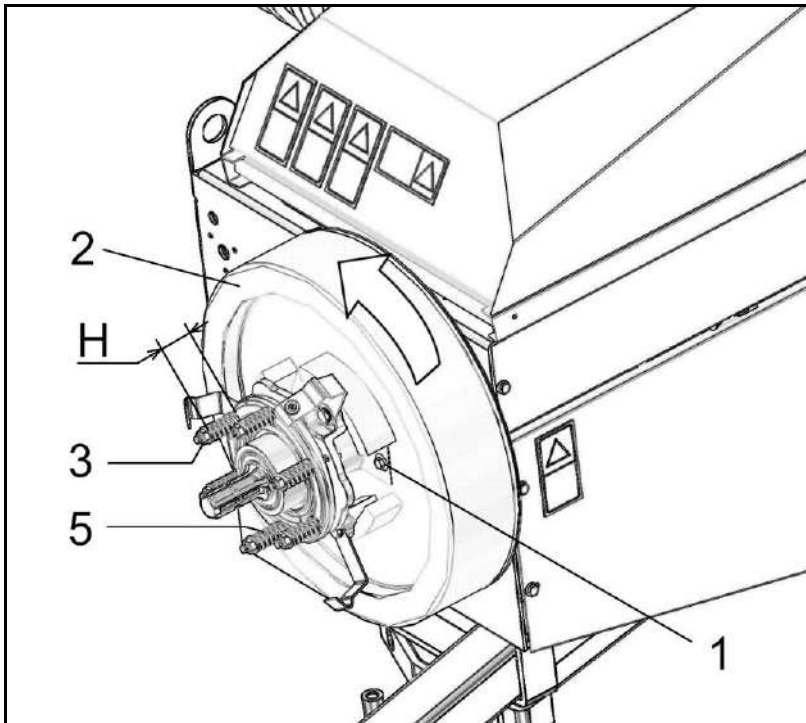

Fig. 7.28
The torque limiter clutch on the flywheel is usually supplied with a standard calibration of 59 daNm and springs (ref. 5, Fig. 7.28).
This clutch can be adjusted by means of the bolts 3 (Fig. 7.28), which compress the springs 5 (which should never be fully tightened). If the clutch plates are in good condition, the correct height H should be 46.9 mm.